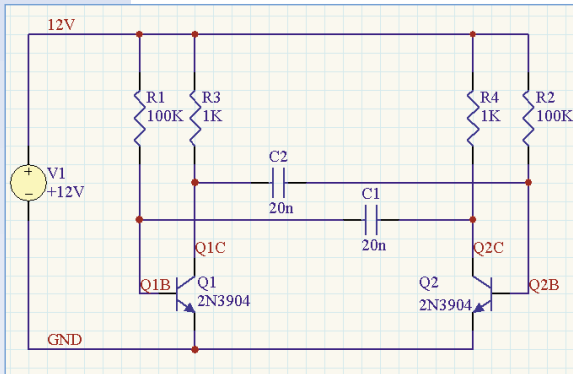

Figure 10
- Using the same technique you used to move the dangling ends of the 12V and GND wires apart, move them again to attach each wire end to either end of the voltage source, as shown in Figure 10.